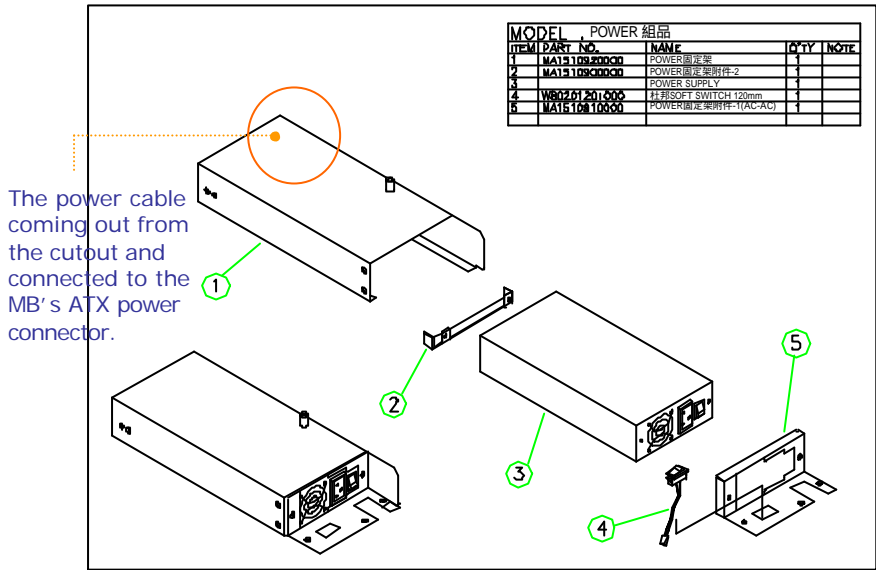

FIGURE 5-13: ODYSSE AC POWER MODULE
1. Refer to Figure 5-13. Attach the power fix bracket (2) to the power supply (3) and fix them together with 2 FMS screws (3*5). This small bracket is used to prevent the power supply from moving around in the power bracket.
2. Insert the power supply to power bracket (1) and fix them together with four 3*5 screws.
4. Insert the power switch (4) to power bracket (5). The other end of the switch cable is to be connected to the 2-pin POWER ON switch, **CN3** on the motherboard.